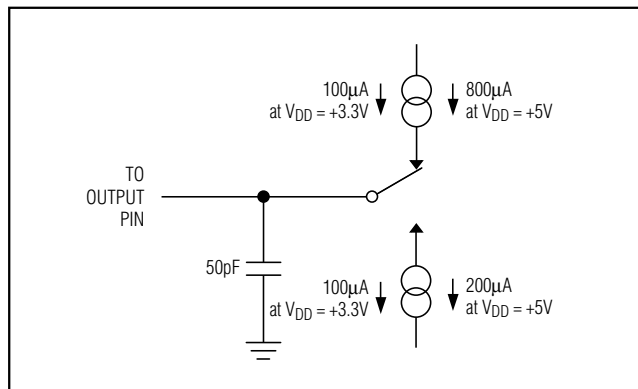

Figure 1. Load Circuit for Bus Relinquish Time and  $V_{OL}$  and  $V_{OH}$  Levels
**Note 24:** Measured with the load circuit of Figure 1 and defined as the time required for the output to cross the  $V_{OL}$  or  $V_{OH}$  limits.
**Note 26:** Derived from the time taken by the data output to change 0.5V when loaded with the circuit of Figure 1. The number is then extrapolated back to remove effects of charging or discharging the 50pF capacitor. This ensures that the times quoted in the timing characteristics are true bus-relinquish times and are independent of external bus loading capacitances.